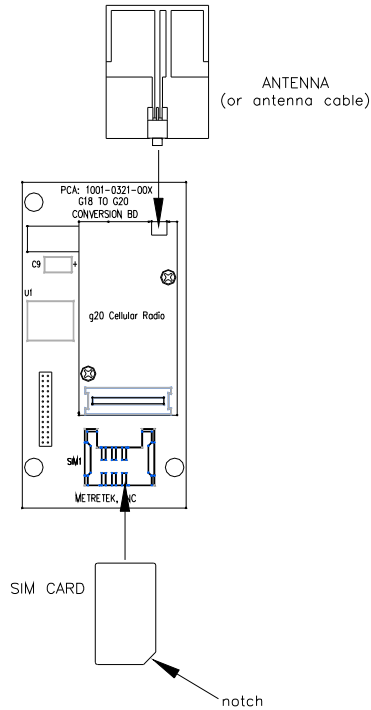

Figure 2-8
4) Reinstall the original antenna (or the antenna cable from the quad-band antenna) by pushing straight into the antenna connector on the g20 radio until a “click” is heard. Install the SIM card observing that the notch is facing out as shown in Figure 2-8.